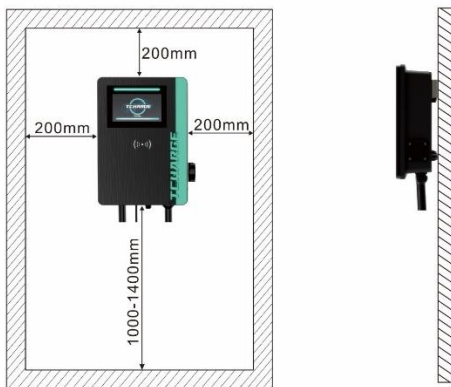

Fig. 5-2 Minimum space requirements for wall mounting
- Space requirement: When the charger is fixed on the wall, the minimum space requirements are shown in Fig. 5-2.